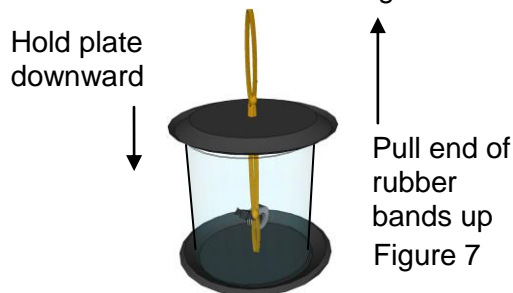

Figure 7
- 10** Place the second plate over the plastic cylinder as shown in figure 7. Hold the second plate food side downward and pull the loose end of the rubber bands upward tightly enough to pull the end of the middle rubber band through the hole.